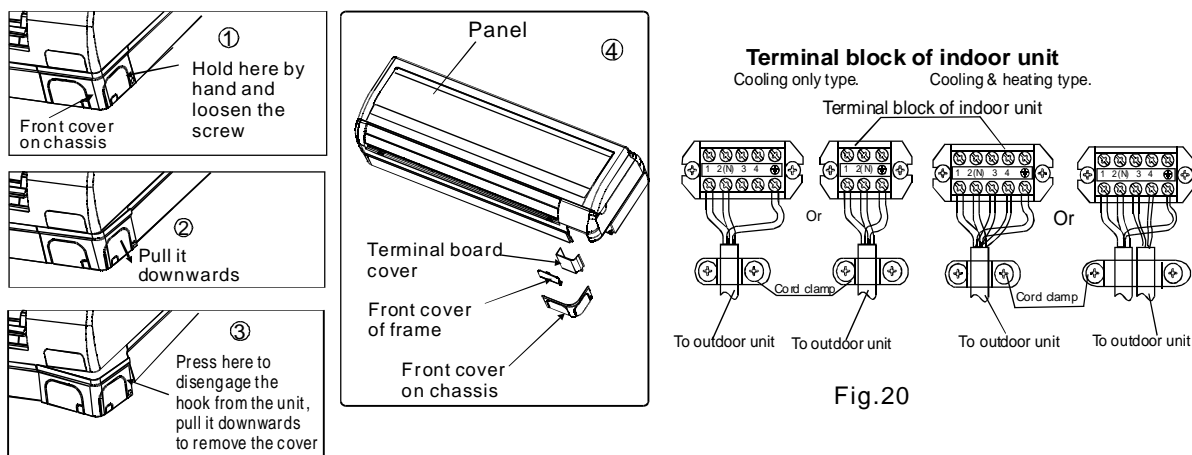

Fig.20
2. Remove the front cover on chassis and front cover of frame as shown in Fig.20. Then remove the terminal board cover by loosening the screw.